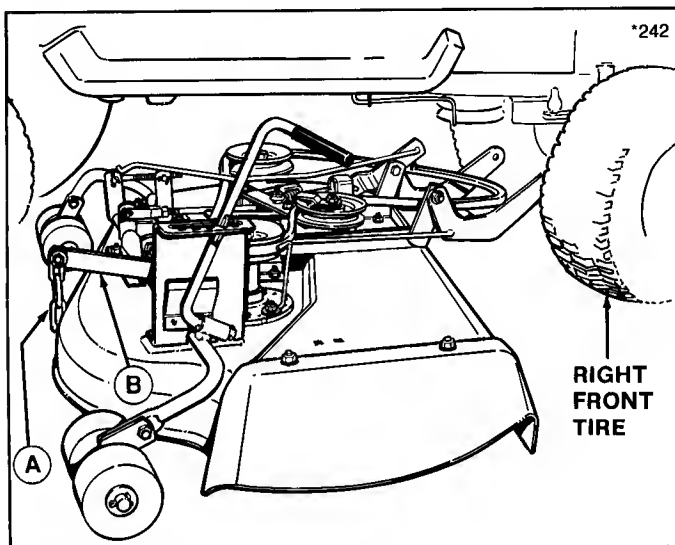
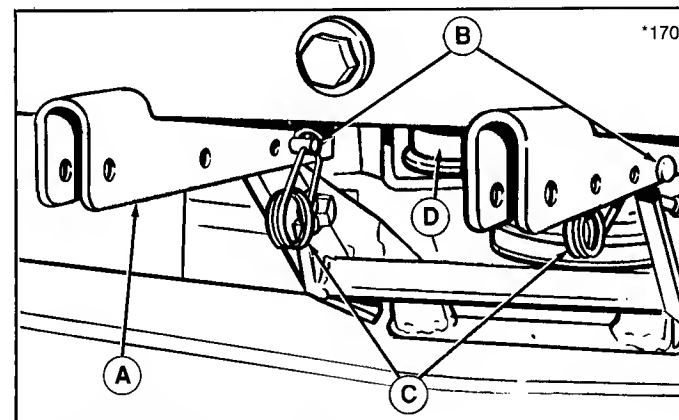
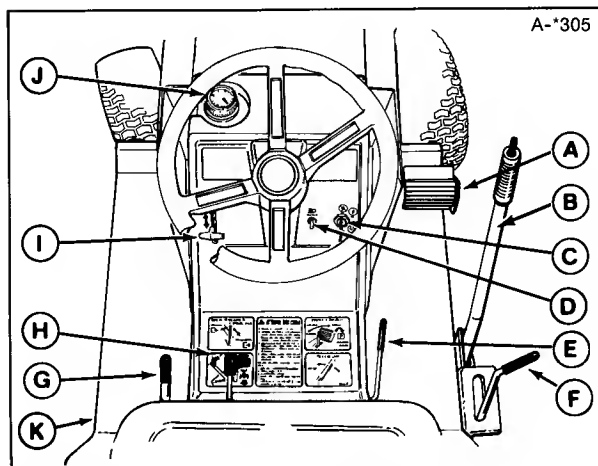

Figure 1. Installing 36" Mower
Figure 2. Mower Hitch Arms
Figure 8. Tractor & Mower Controls
The lift chain (A, figure 1) should be connected to the rear hole in lift arm (B) unless optional large lift arm (B, figure 8) is used to raise mower. With large lift lever, connect chain in forward hole.
2. Turn the tractor front wheels full left (figure 1).
3. Place the mower in lowest cutting position and slide it under the tractor, aligning arms (C, figure 1) with tractor hitch (A, figure 2).
5. Lift up front of mower and insert pins (B, figure 2) to attach mower hitch arms to tractor hitch (A). (You can insert a pry bar or wood under front edge to raise deck.) Connect the clips (C) into the pins.